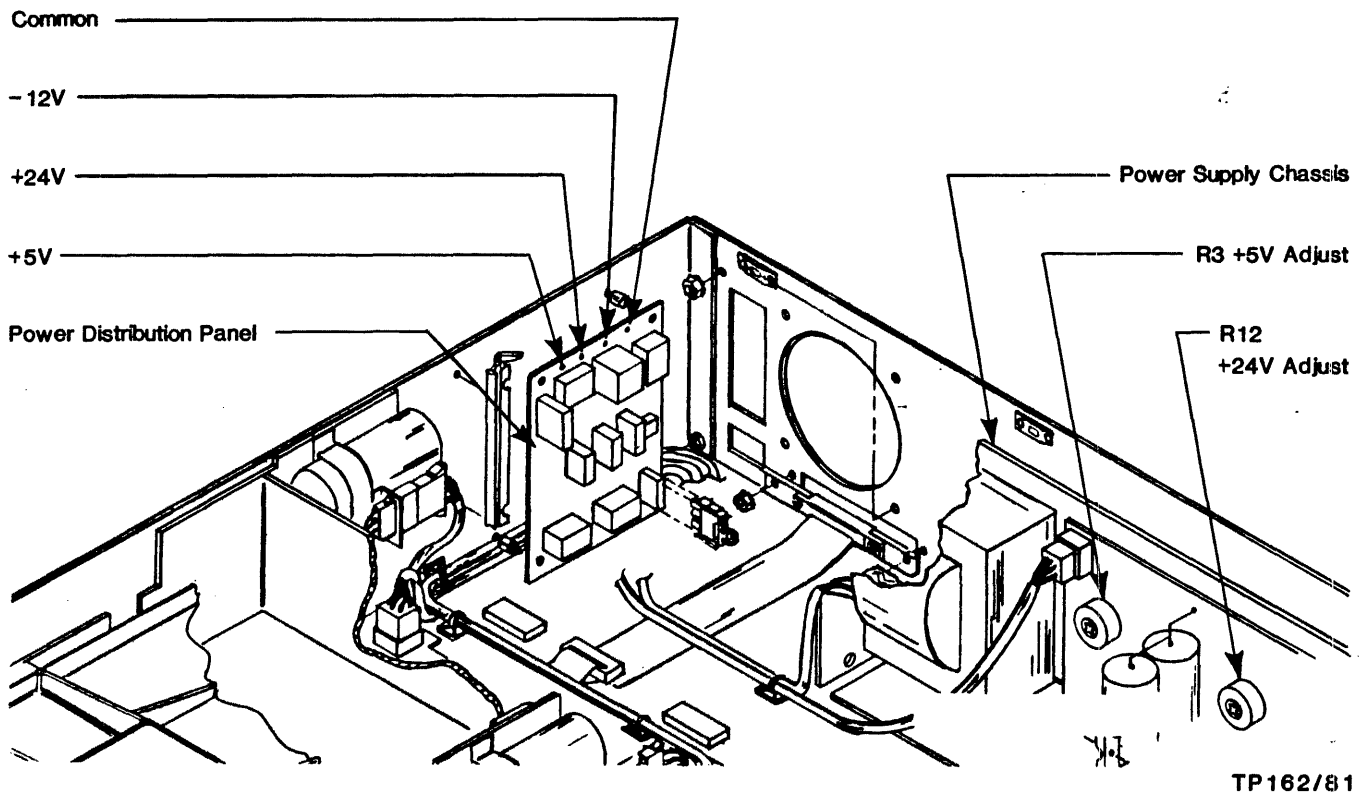

Figure 4-1. Other Test Point Locations
Test points for measurement of dc output voltages of the power supply are located on the power distribution panel. These test points are shown in Figure 4-1, and described in Table 4-1.
- (b) Connect voltmeter to +24V and COM test points on the power distribution panel (see Figure 4-1.). Observe meter polarity.
- (e) Disconnect meter and reconnect to the +5V and COM test points; observe meter polarity (see Figure 4-1).